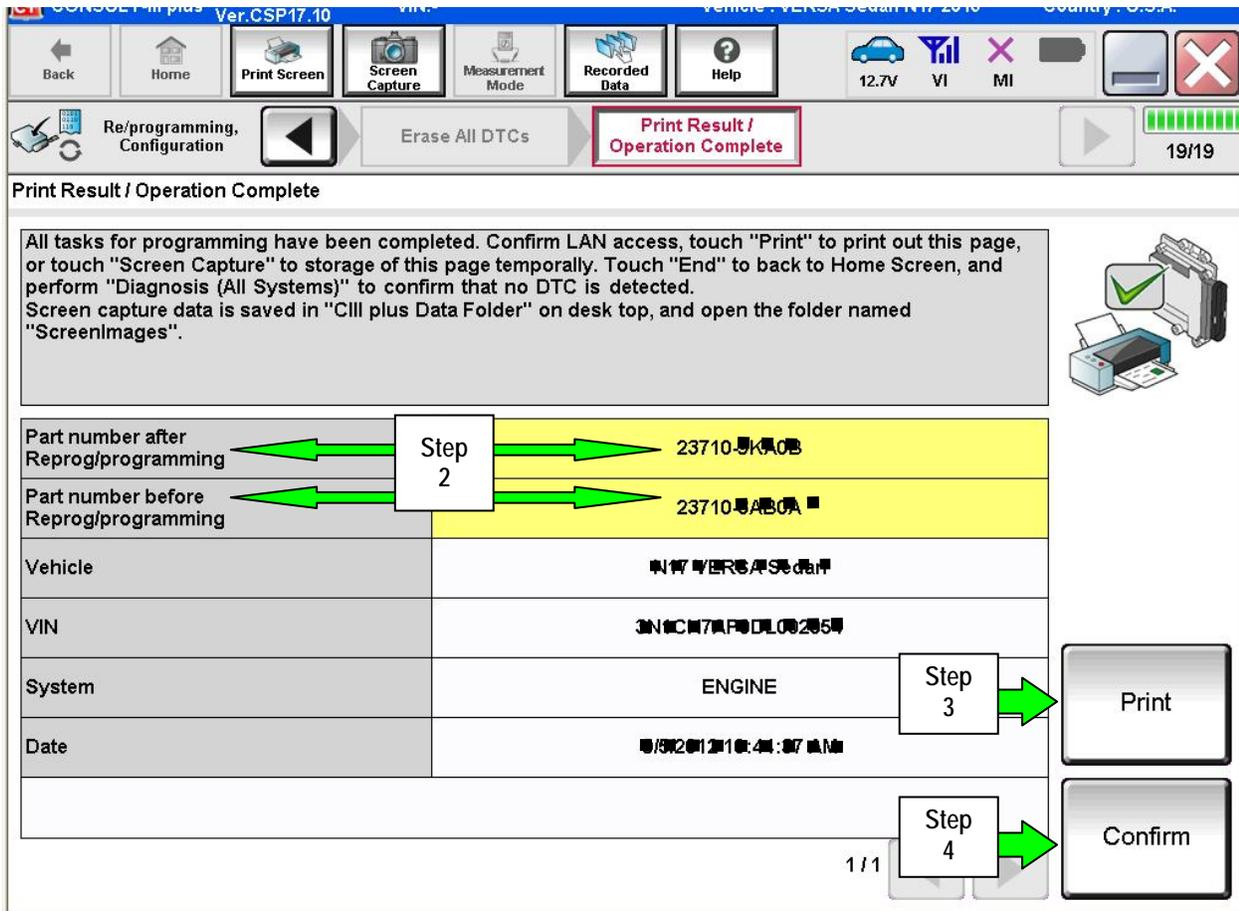

Figure 21a
2. Verify the before and after part numbers are different (see Figure 21a).
3. Print a copy of this screen (Figure 21a) and attach it to the repair order.